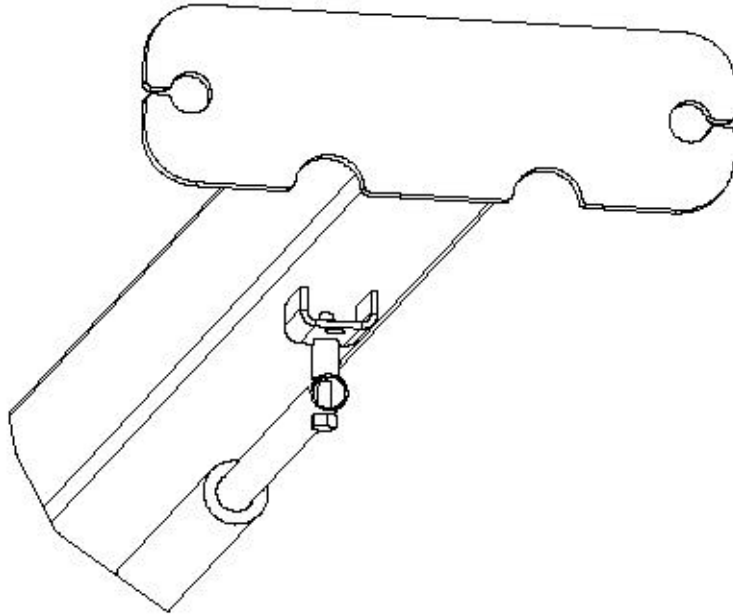

Figure 11
- * Slide the end of the padded switchbar without a mounting hole in it through the slot in the overhead switch assembly. Connect the padded switchbar to the inside hole in the overhead beam using a cylindrical spacer, $\frac{1}{4}$ -20 X 1-3/4 HHCS, and Flange Nut, figure 11.